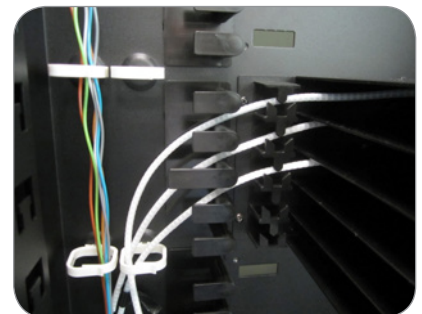

Figure 10.
- Load all excess fibre tubes into the white management clips as shown in **Figure 10**.